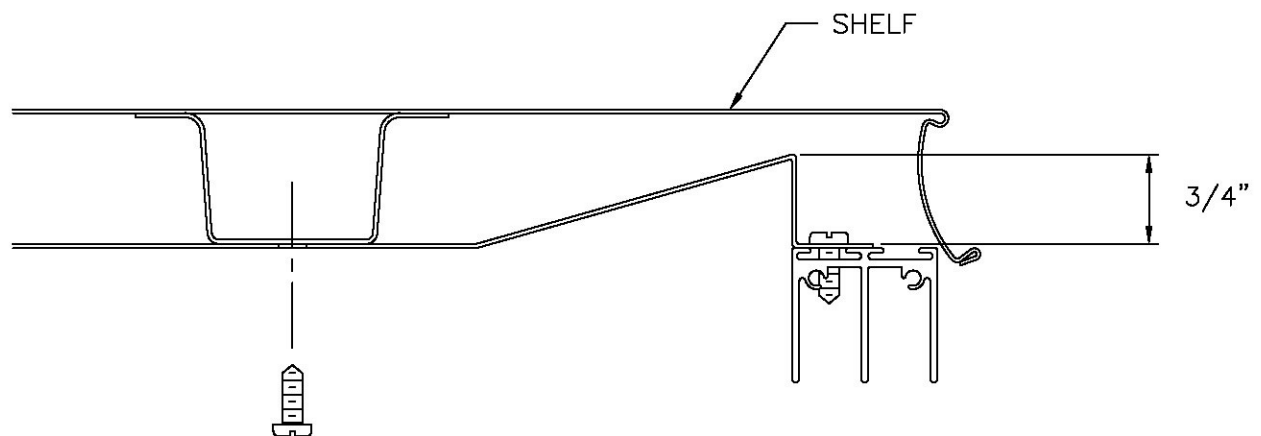

FIGURE 8
- C. Bend Straps as shown in FIGURE 8 to provide clearance for applications requiring a light kit